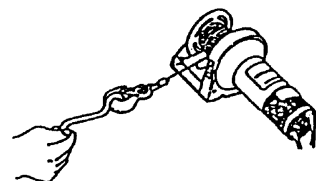

Figure 3
6. NEVER WINCH WITH LESS THAN 5 TURNS of wire rope AROUND THE WINCH DRUM since the wire rope end fastener will NOT withstand a load. **ALWAYS USE THE HANDSAVER** when guiding the wire rope in or out (see Figure 3).